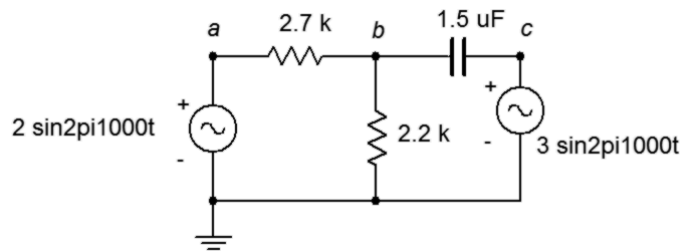

Figure 6.1
- Given the circuit in Figure 6.1, write the mesh loop equations and determine v_b .
- Use mesh analysis to find the current through the $2.7 \text{ k}\Omega$ resistor in the circuit of Figure 6.1.